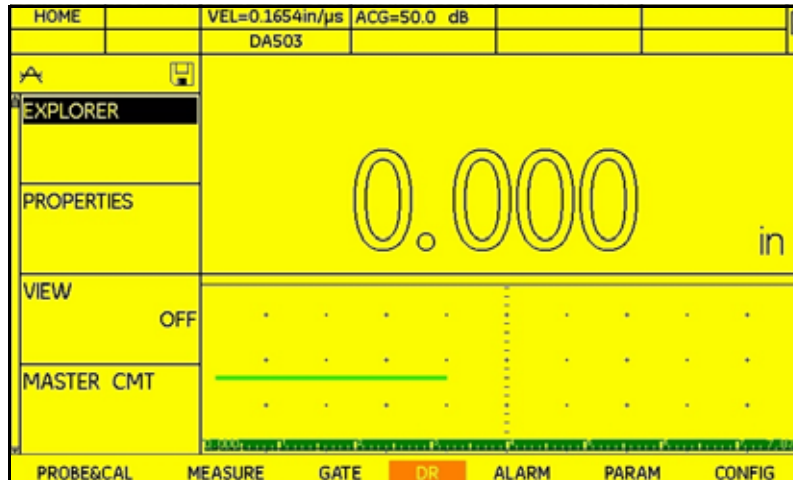

Figure 21: The DR Menu
The on-board data recorder option of the DMS Go is a flexible, powerful tool for managing ultrasonic thickness data. It can store, evaluate, display, and report on various types of measurement data. The *Data Recorder* (DR) menu functions are shown in *Figure 21* below.